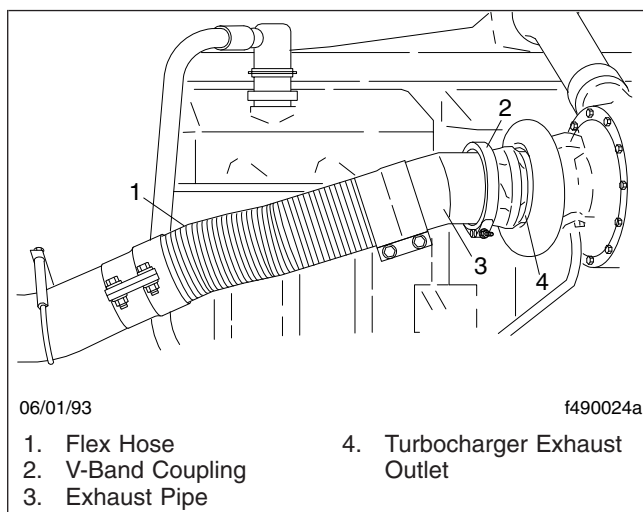

Fig. 6, V-Band Coupling and Flex Hose
2. Inspect the exhaust flex hose (see Fig. 6) for leakage, wear, or damage. Replace with new parts if replacement is needed.
3. Check for leakage at the V-band coupling, which attaches the exhaust pipe to the turbocharger exhaust outlet. See Fig. 6.